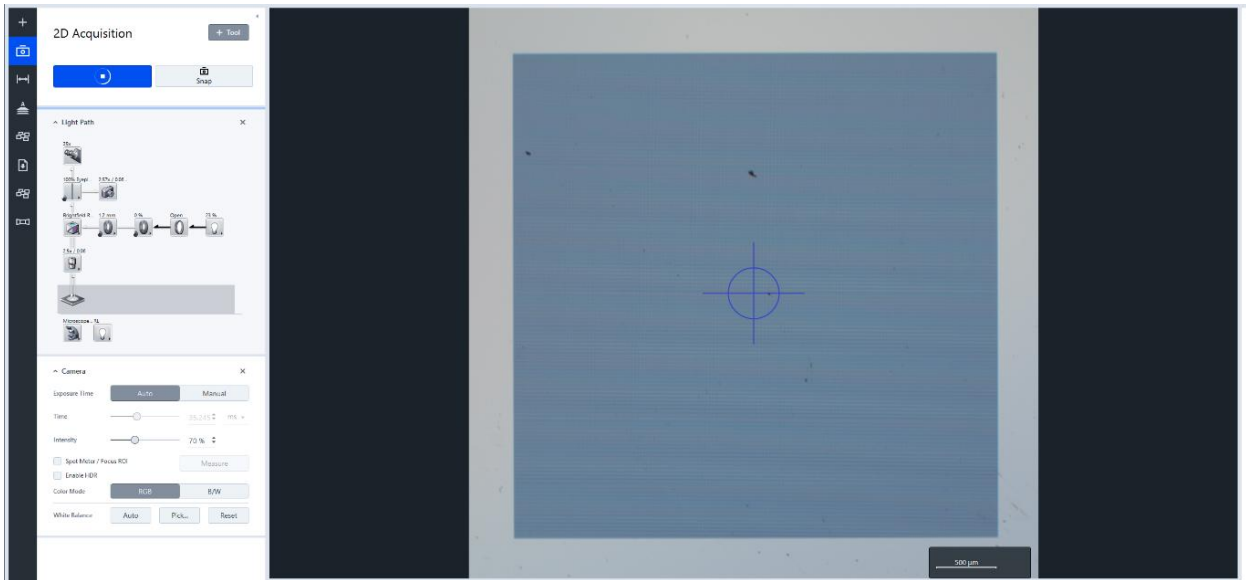

Figure 12. 2.5X Magnification Imaging Page Focused on the Sample
11. Image acquisition will be demonstrated using 2D Acquisition as an example. After selecting 2D Acquisition, focus the sample at 2.5X magnification. Use the coarse and fine focus adjustments, as shown in Figure 9 (#2), until the sample is focused as illustrated in Figure 12.